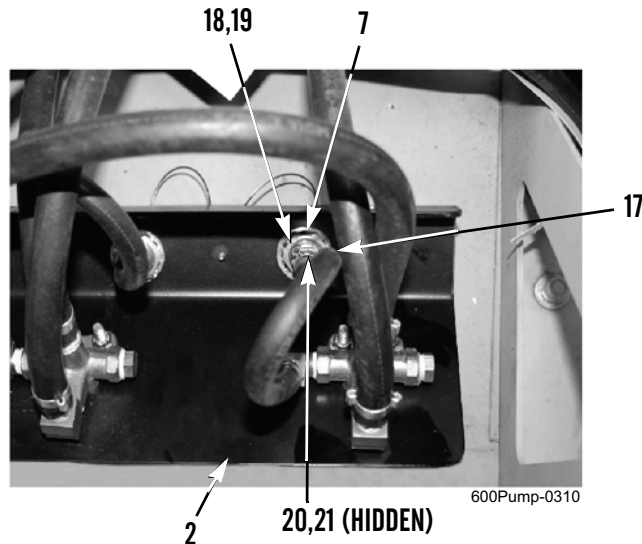

Figure 5. AUX Suction Inlet Fitting and Fuel Selector Panel.
1. Install AUX suction inlet fitting (Figure 5, Item 7) on fuel selector panel (Figure 5, Item 2) with new lockwasher (Figure 5, Item 19) and nut (Figure 5, Item 18).
2. Position new hose clamp (Figure 5, Item 20) on hose (Figure 5, Item 17) at AUX suction inlet fitting (Figure 5, Item 7).
3. Hold hose (Figure 5, Item 17) and install fitting (Figure 5, Item 21) and hose on AUX suction inlet fitting (Figure 5, Item 7). Tighten hose clamp (Figure 5, Item 20).